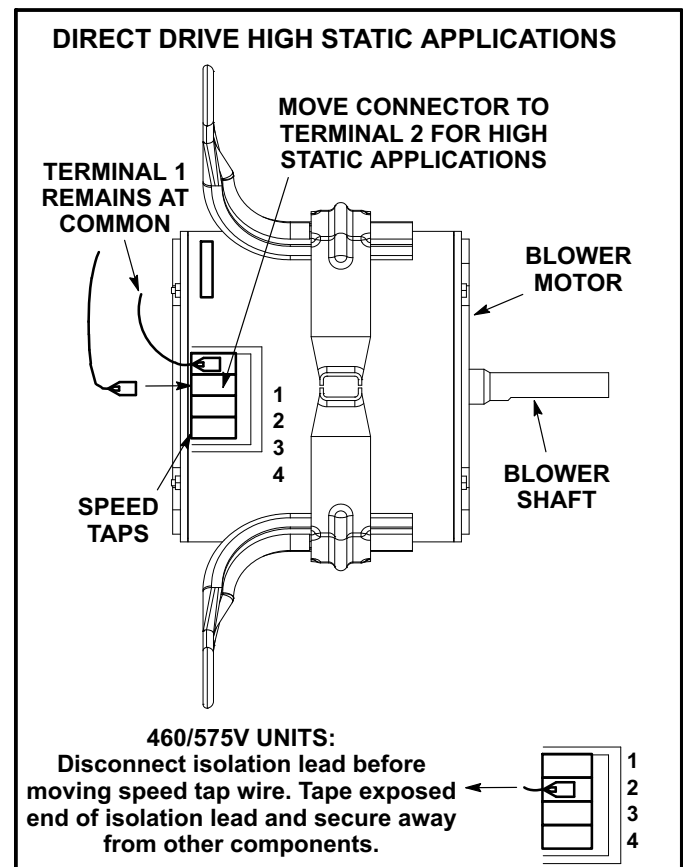

FIGURE 7
- 4- Use the blower tables starting on Page 15, the measured static pressure, and the factory-set blower speed to determine CFM. If CFM is lower than the design specified CFM, move the lead from speed tap 3 or 4 to speed tap 2. See figure 7.